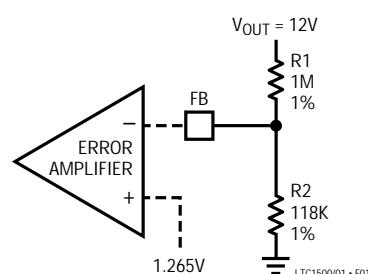

Figure 1. External Voltage Divider
Preset 3.3V and 5V parts are available. For other voltage applications the adjustable part uses an external resistor divider to set output voltage. Bias current for the feedback (FB) pin is typically $\pm 30\text{nA}$ (it is internally compensated). Thevenin divider resistance should be $100\text{k}\Omega$ or less to keep bias current errors to a minimum. This leads to a value for R_1 and R_2 (see Figure 1) of: